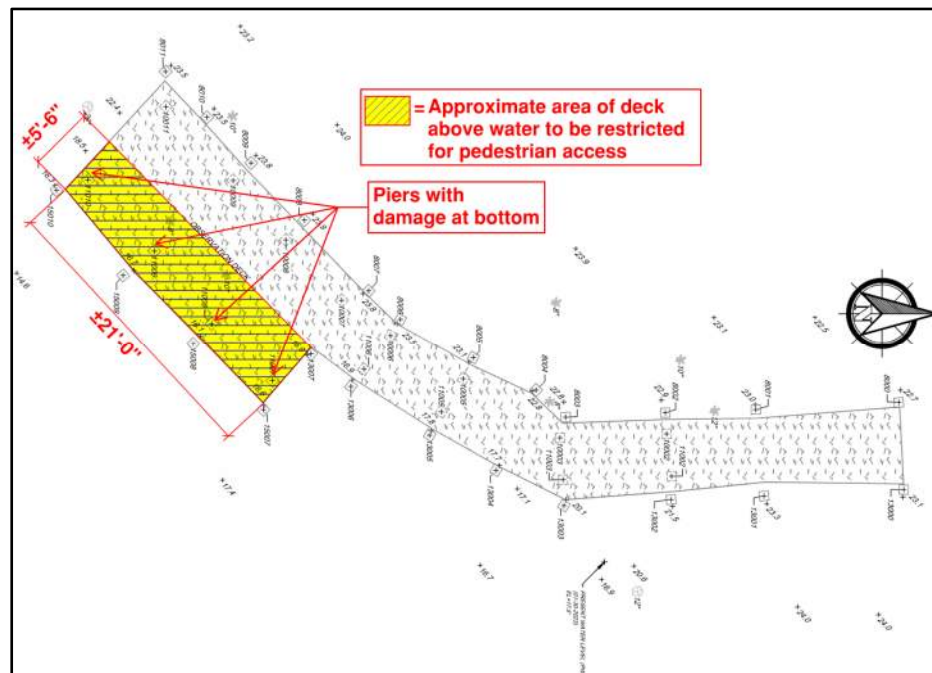

FIGURE 2 – OBSERVATION DECK SHOWING THE REGION TO BE RESTRICTED FOR ACCESS
- A. Based on the damages observed in four piles in water and additional distress that can be caused by the trees resting on handrail, we recommend restricting access at least for a partial portion of the observation deck in south end as shown in **Figure 2** below.